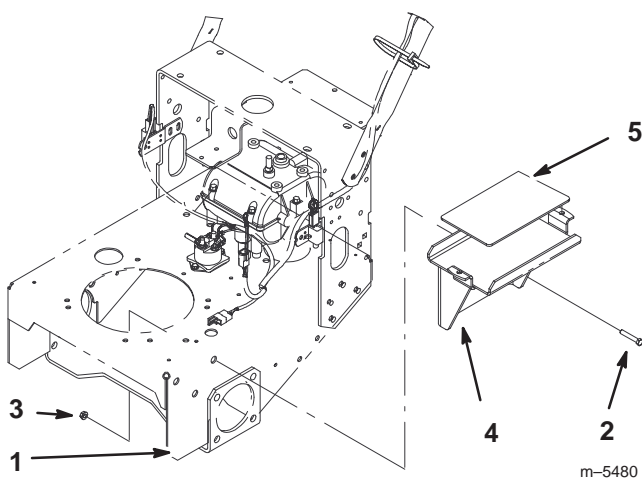

Figure 12
3. Peel off backing from battery pad and affix pad to battery holder (Fig 12). Rubber battery pad should be centered on battery holder.